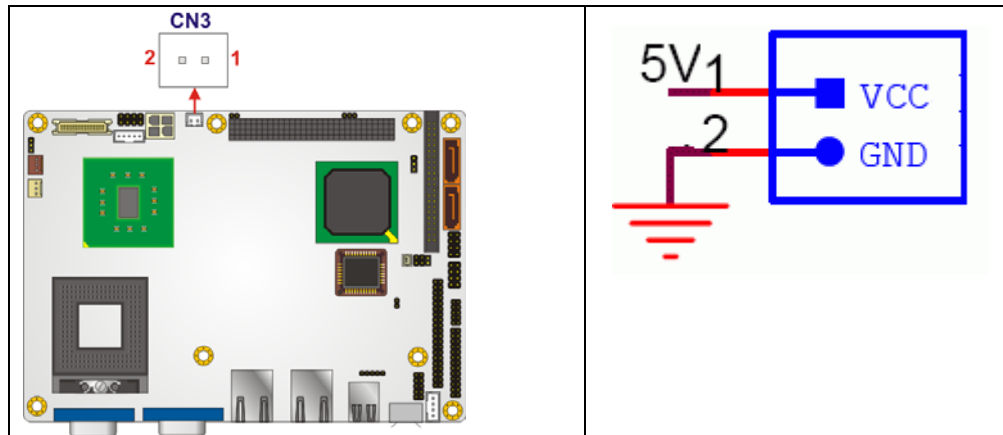

Figure 4-4: +5V ATX Power Connector Location
- CN Location:** See Figure 4-4